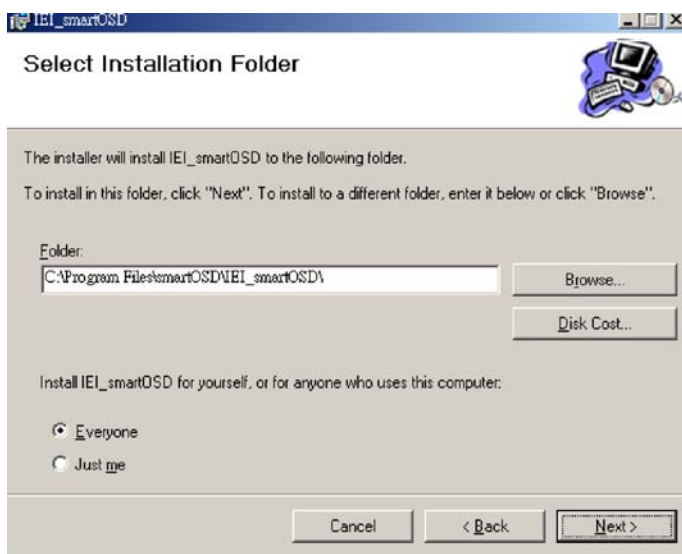

Figure C-2: smartOSD Folder Select Screen
**Step 5:** The Folder Select screen in **Figure C-2** appears.
**Step 6:** Select the installation folder in Figure C-2 shown above.